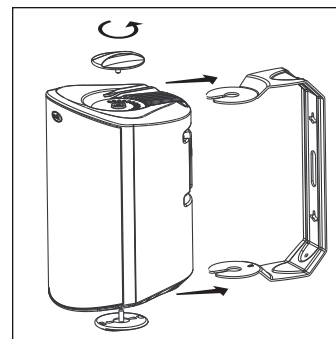

FIGURE 14: Turn the bracket knobs to remove the bracket assembly.
12. Secure the speaker to the bracket by sliding the speaker between the bracket arms. The built-in ramps will spread the bracket slightly and guide the ends of the bracket onto the threaded protrusions. A ratcheting system holds the speaker in place and helps you fine tune how you want to aim it. [figure 14].